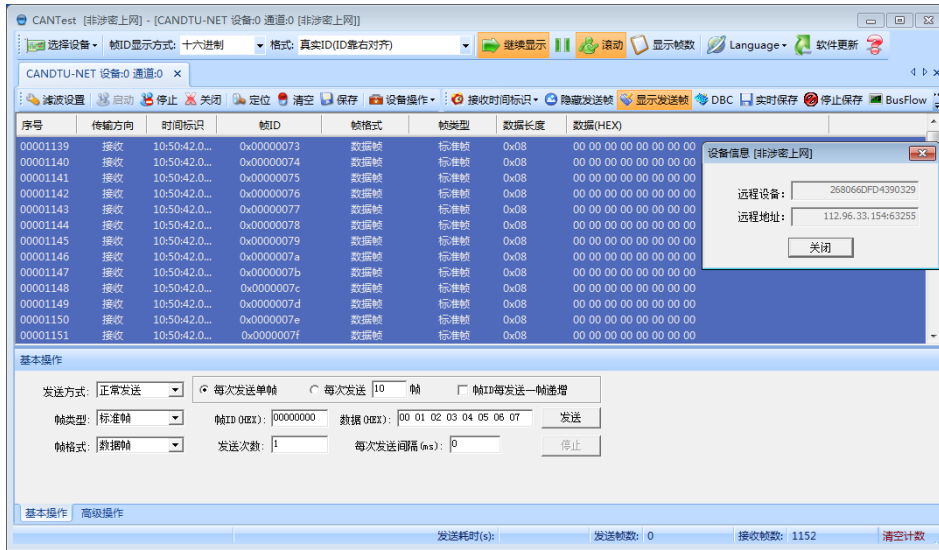

Figure 4.41 Data sending and receiving
4) Figure 4.41 shows the device connection. The data display area displays the data sent and received